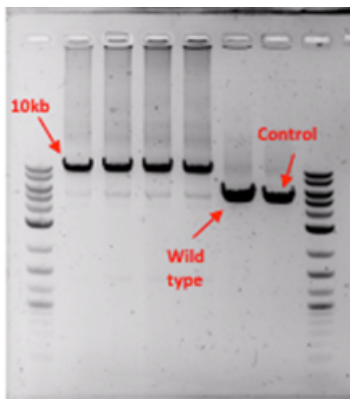
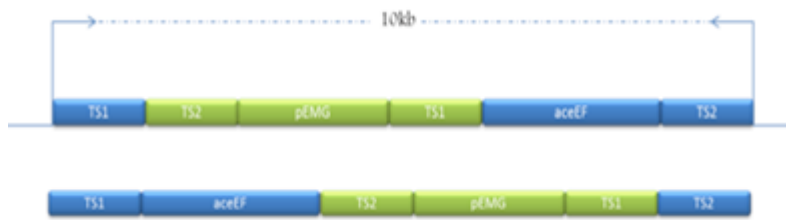

Figure 2
Figure 3
**Note:** For the selection of the right co-integrates, design and use primers which bind outside of the TS1-gene-TS2 region. In this way you are looking just for a single large PCR product instead of selecting with TS1-Fwr, TS2-Rvr. In the case of aceEF the desired product had the size of 10kb (Fig. 2 and Fig. 3).